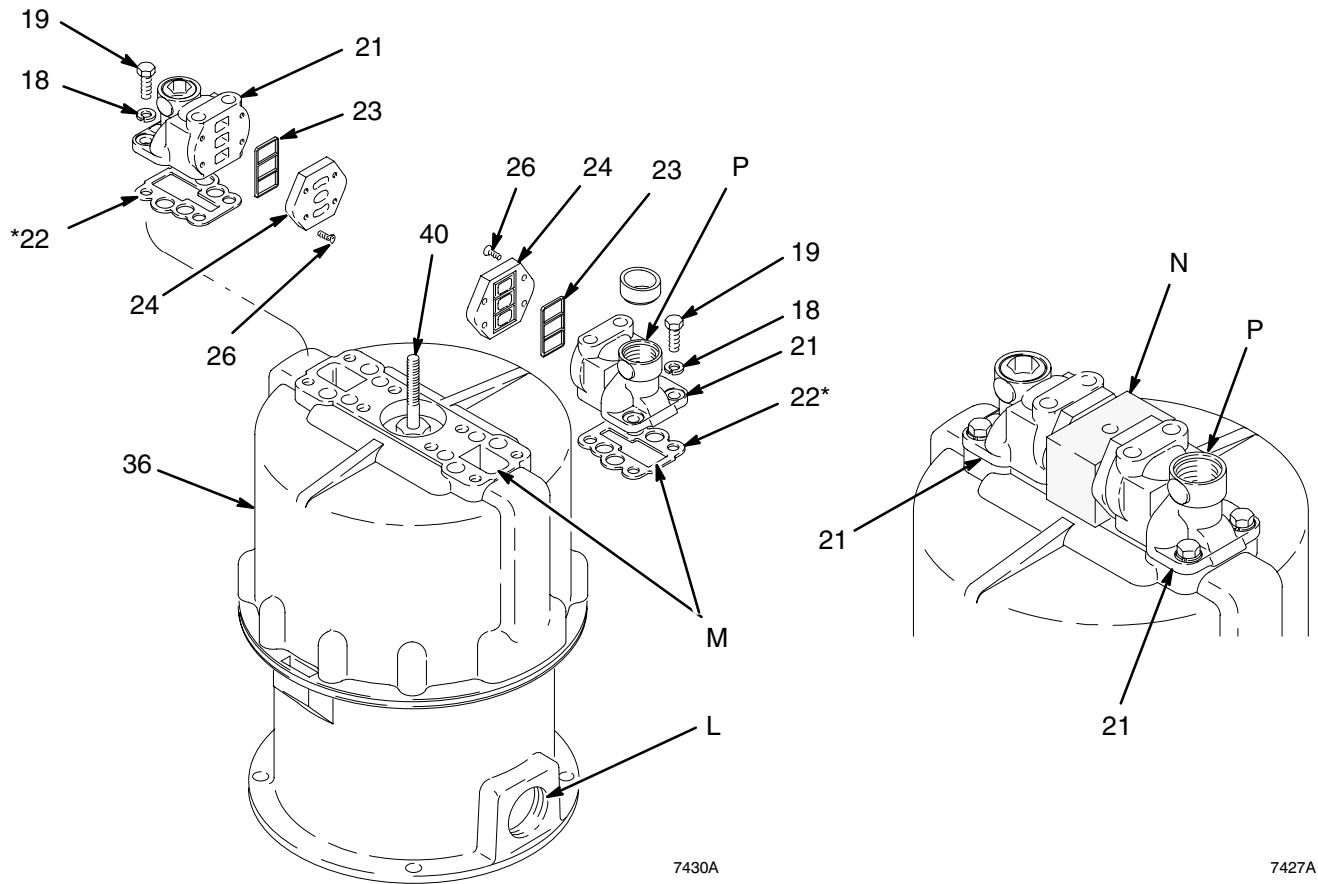

Fig. 8
- See Fig. 8. Make sure the seals (23) are in place on the valve plates (24). Attach the plates to the manifolds with the screws (26).
- Place the air valve alignment tool (N, order Part No. 168513) on the trip rod (40). Place the gaskets (22*) on the cylinder (36) so the wide end of the slot aligns with the air channel (M). Install the manifolds (21). The air inlet manifold (the one with the open port, P) must align with the optional fluid outlet in the base (L). Install the screws (19) and washers (18). Remove the tool.